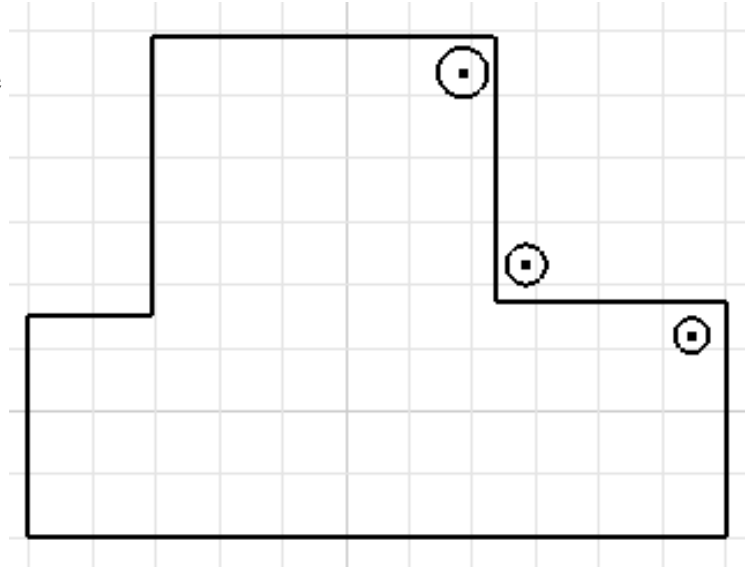

Figure 2.5.3: Circles Tangent
4. Then find the **Tangent** command on the Geometric Constraints Menu and make the circles tangent to the lines surrounding them as in Figure 2.5.3.